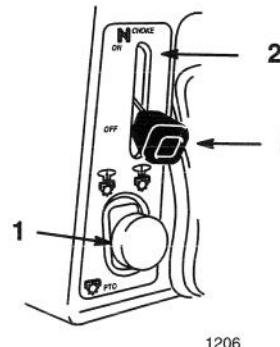

Figure 3
3. Push the PTO (power take off) to "OFF" (Fig. 3).
4. Move the choke lever to "ON" (Fig. 3).